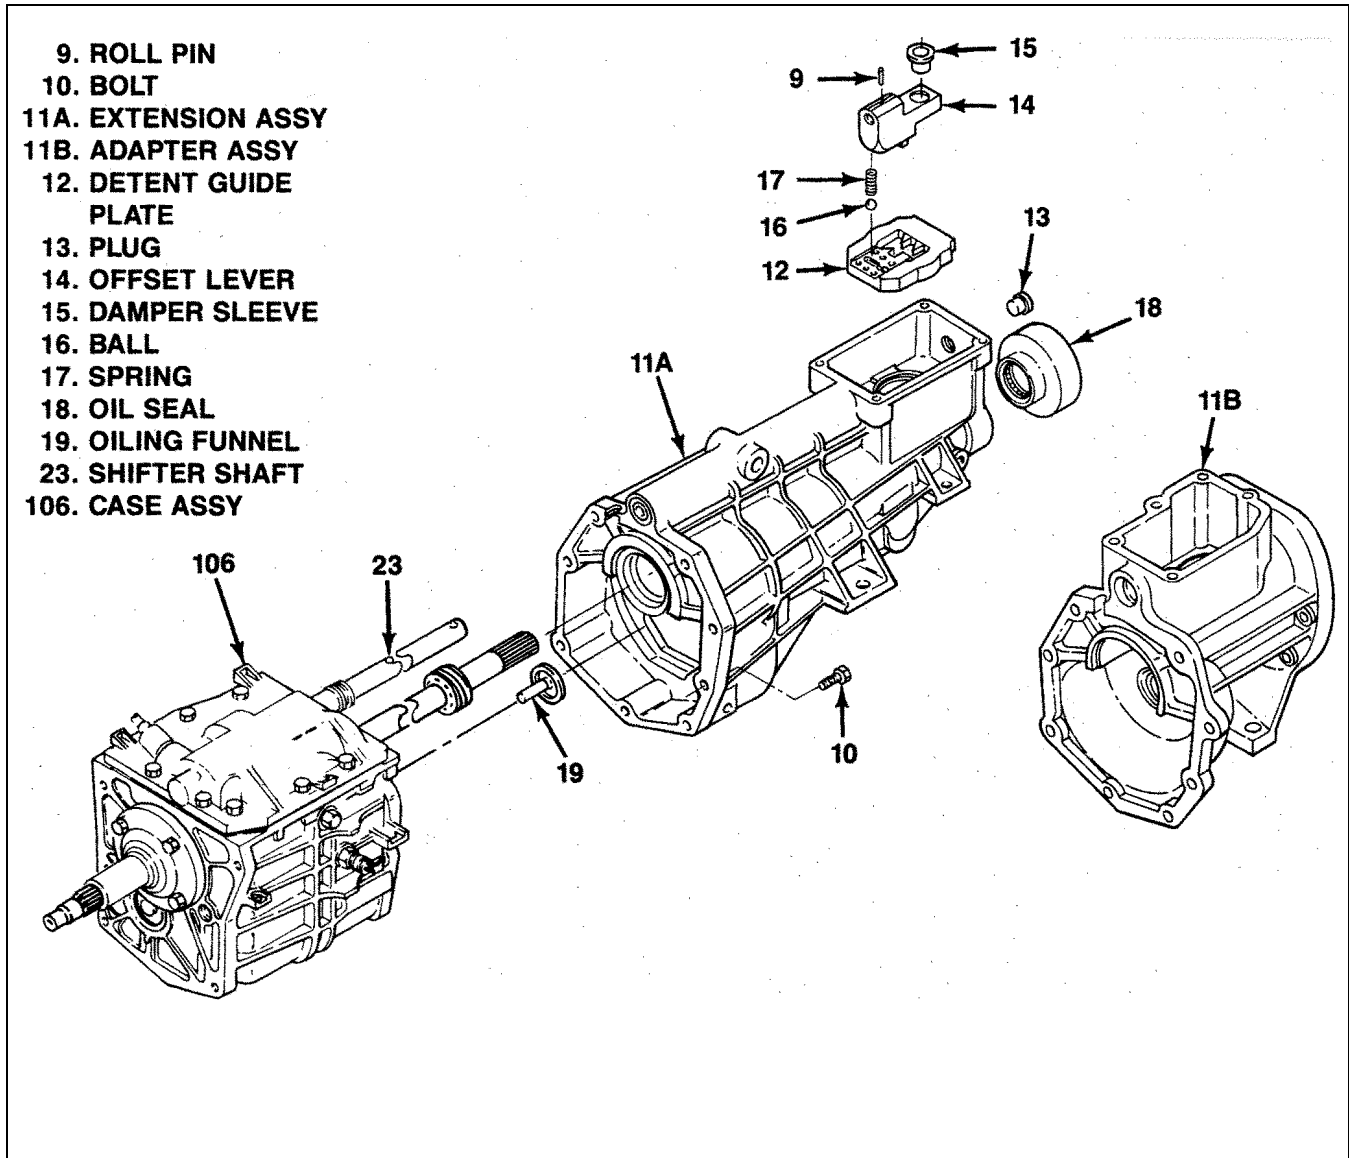
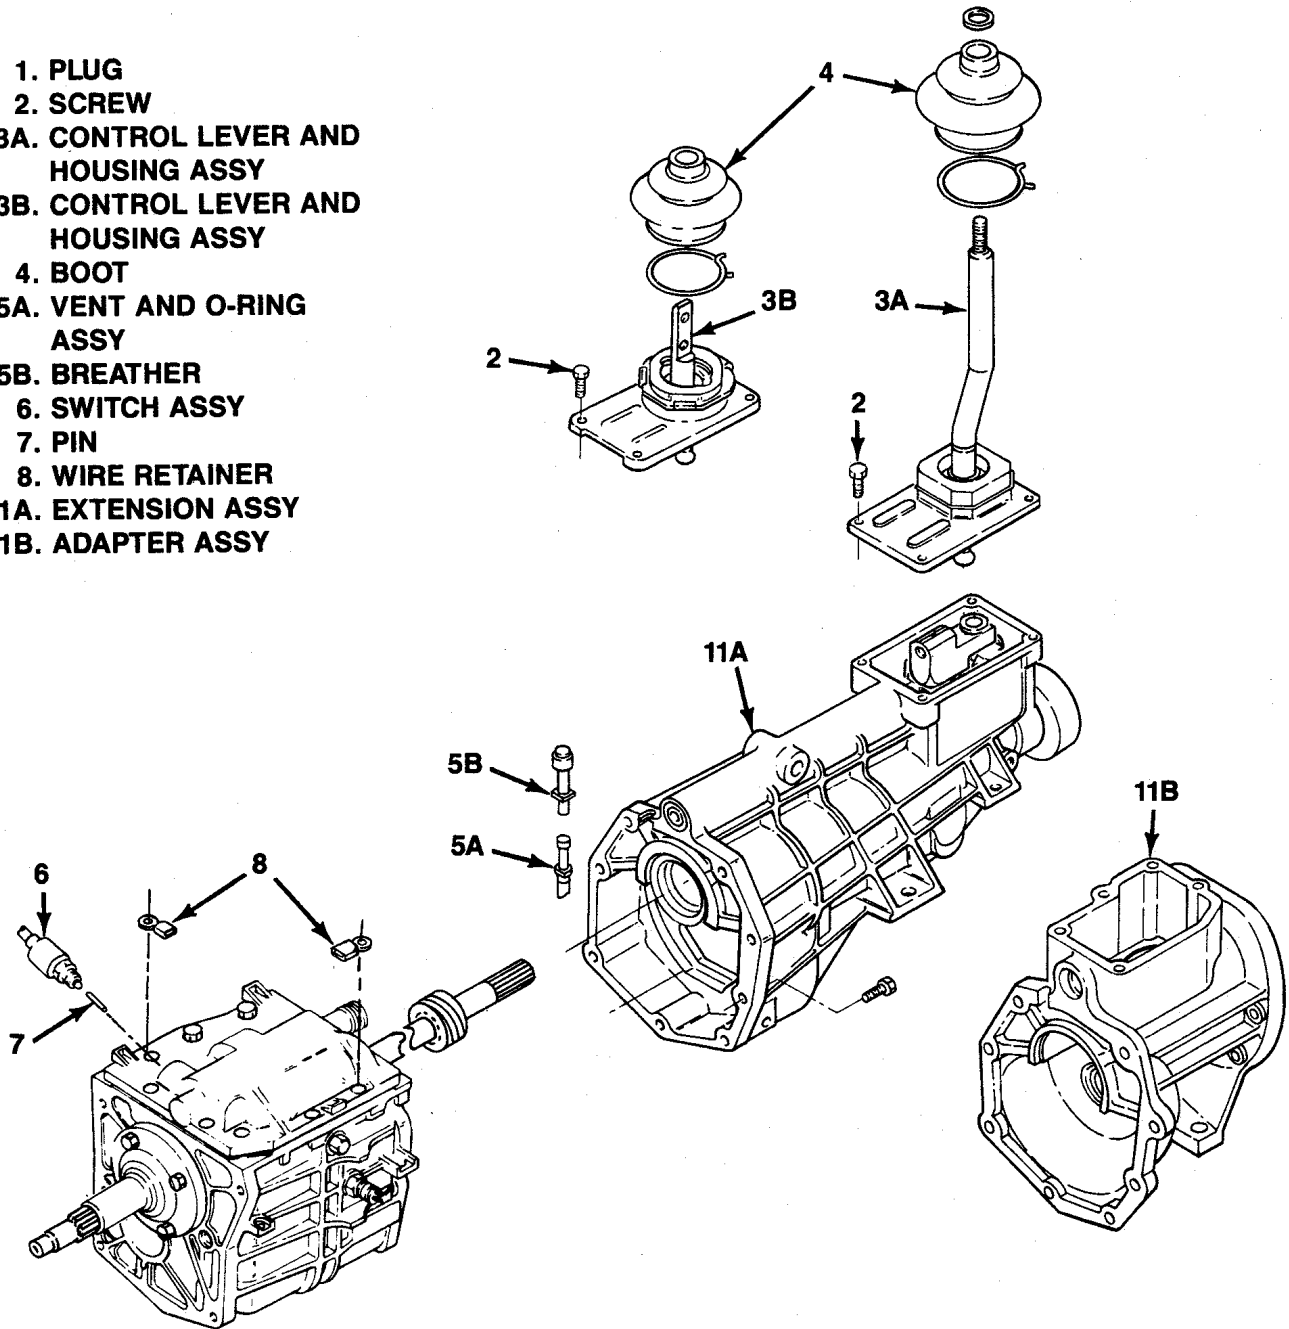

Figure 7-19. T5 STD Extension or Adapter
Figure 7-23. T5 STD External Components and Control Lever Housing
- h. Align pin holes in selector arm (27) and shifter shaft (23) and drive in selector arm pin (22) using suitable drift.
1. Rotate shifter shaft (23) so that pin hole through its free end is at 90 degree angle to open face of case cover (32).
2. Check that projection on selector arm assembly (27) is engaged in notch in selector plate (29) installed in 3-4 shift fork.
- j. Apply continuous 1/16 in. (1.6 mm) bead of sealant (Neutral Cure RTV, Loctite 598) all around transmission case (106) mounting face for case cover (32). Center sealant bead between edges of face. Circle bolt holes.
- l. Position case cover (32), with assembled parts, over transmission and gradually lower, engaging shift forks (24 and 25) with grooves in synchronizer collars in transmission. Lower case cover into position, moving it sideways just before it contacts transmission case (106) as required to align bolt holes.
**7-18. INSTALLATION OF T5 STD EXTENSION OR ADAPTER.** With case cover installed, proceed as follows (see figure 7-19):
- f. Select shim(s) (59) of thickness calculated at step e and install on end of bearing cup noting the following:
1. Thickest shim shall be installed adjacent to bearing cup (60). Minimum thickness of this shim shall be 0.012 in. (0.30 mm).
2. Thinnest shim shall be installed adjacent to bearing contact surface in input bearing retainer (57).
- g. Apply continuous 1/16 in. (1.6 mm) bead of sealant (Neutral Cure RTV, Loctite 598) all around transmission case (106) counting face for input bearing retainer (57). Center sealant bead between edges of face. Circle bolt holes.
- h. Align index marks made at disassembly and install input bearing retainer (57). Attach with bolts (56) and torque to 15 lb-ft (20 Nm).
**7-20. INSTALLATION OF T5 STD EXTERNAL COMPONENTS AND CONTROL LEVER AND HOUSING ASSEMBLY.** Complete transmission assembly as follows (see figure 7-23):
- a. If used, install wire retainer (8), pin (7) and neutral switch (6).
1. Install boot (4) if replaced.
3. Position control lever and housing assembly (3A or 3B) on extension (11A) or adapter (11B) engaging inside end of lever in damper sleeve (15, figure 7-19) installed in offset lever (14, figure 7-19).
4. Install screws (2) and torque to 13 lb-ft (17 Nm).
- d. Install fill and drain plugs (1) and torque to 20 lb-ft (27 Nm).